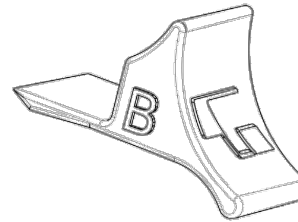

Fig. 13
1. Take one Toggle Shield® Rocker **part 'B'** from the bag. It is marked with the letter 'B' (see figure 13).